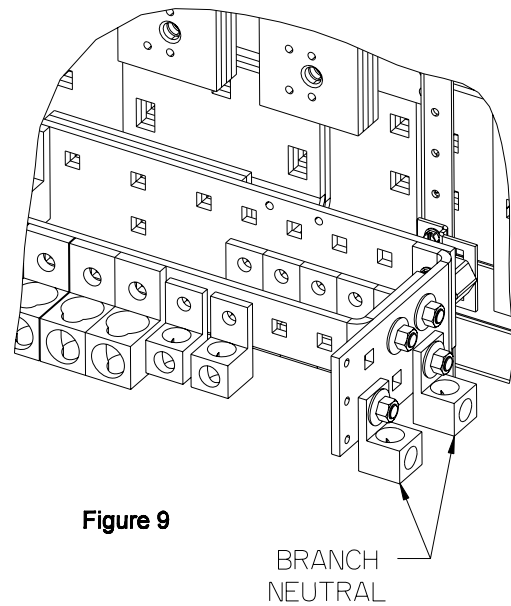

Figure 9
10. Reference fig. 9 - Installing the Branch Neutral Lug (item 19) in a Switchboard. The Branch Neutral is located at the bottom of the "Z-rails", or mirrored at the top depending upon the feed cable location. Two (2) different Neutral lug assemblies are included in the kit, be sure to install the type pictured below. The Neutral lug assemblies can be mounted, as shown, or on any available hole of the Branch Neutral depending on cable feed location. Torque all hardware as specified on the rear of the dead front.